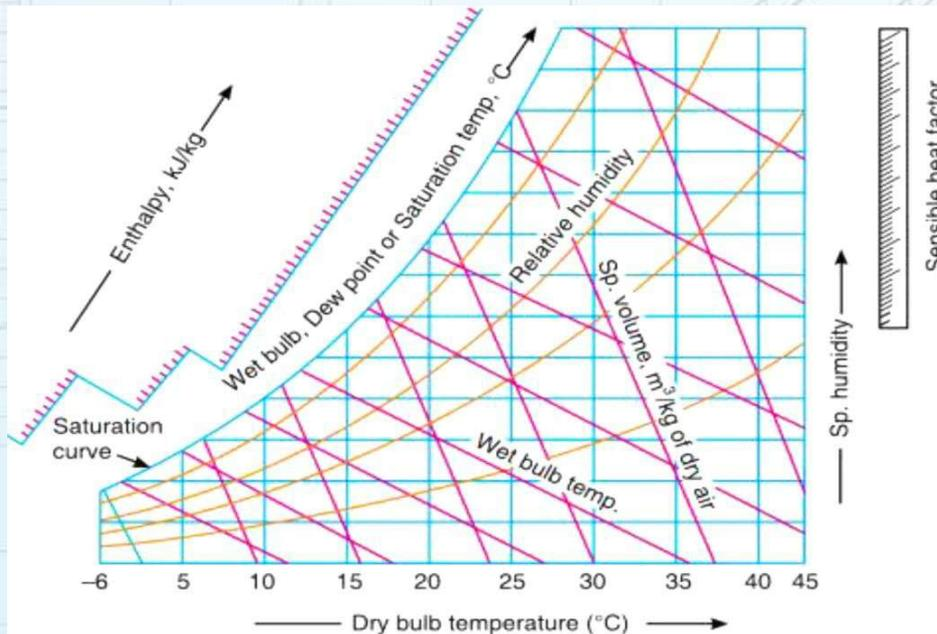

Fig.2.3 – Psychrometric chart
- ▶ In a psychrometric chart, dry bulb temperature is taken as abscissa and specific humidity as an ordinate, as shown in Fig. 2.3.